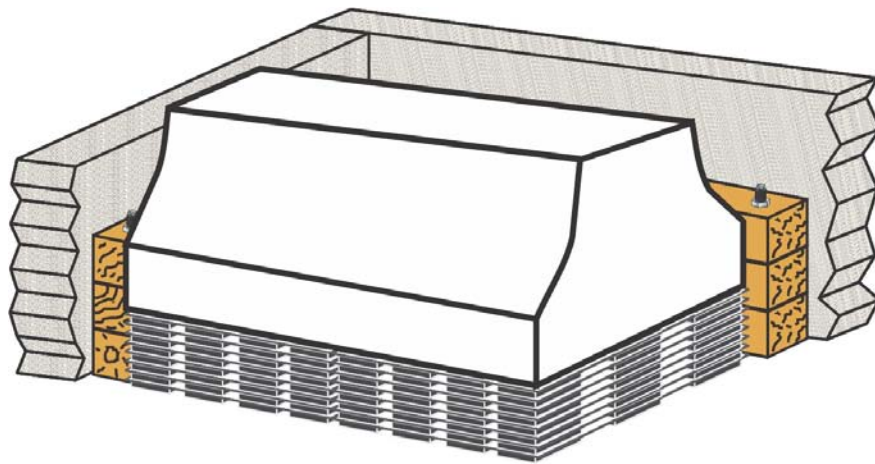

FIGURE 6
13. Lower and center the anvil base on the isolation elements. All elastomer elements should be covered by the anvil base. See Figure 6.